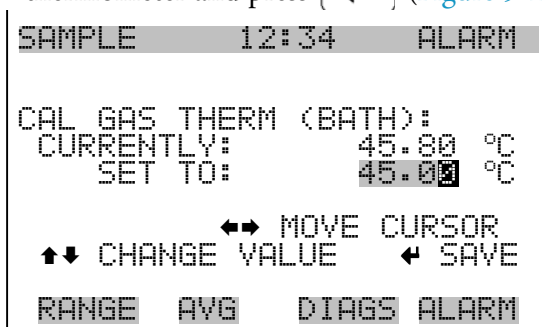

Figure 9-2. Cal Gas Therm Bath Screen
- From the Permeation Oven menu, in the Service menu, select Cal Gas Thermistor > **Water Bath**. Enter the thermistor temperature from the thermometer and press (←) (Figure 9-2).